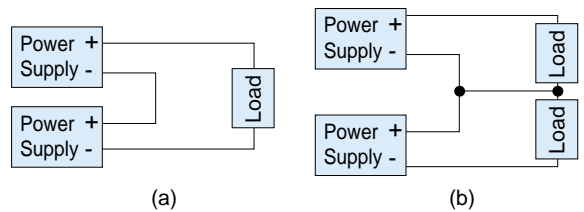

Fig.4.1 Examples of connecting in series operation
■ Series operation is possible by connecting as shown in Fig.4.1. Output current in series connection should be lower than the lowest rated current in each unit.